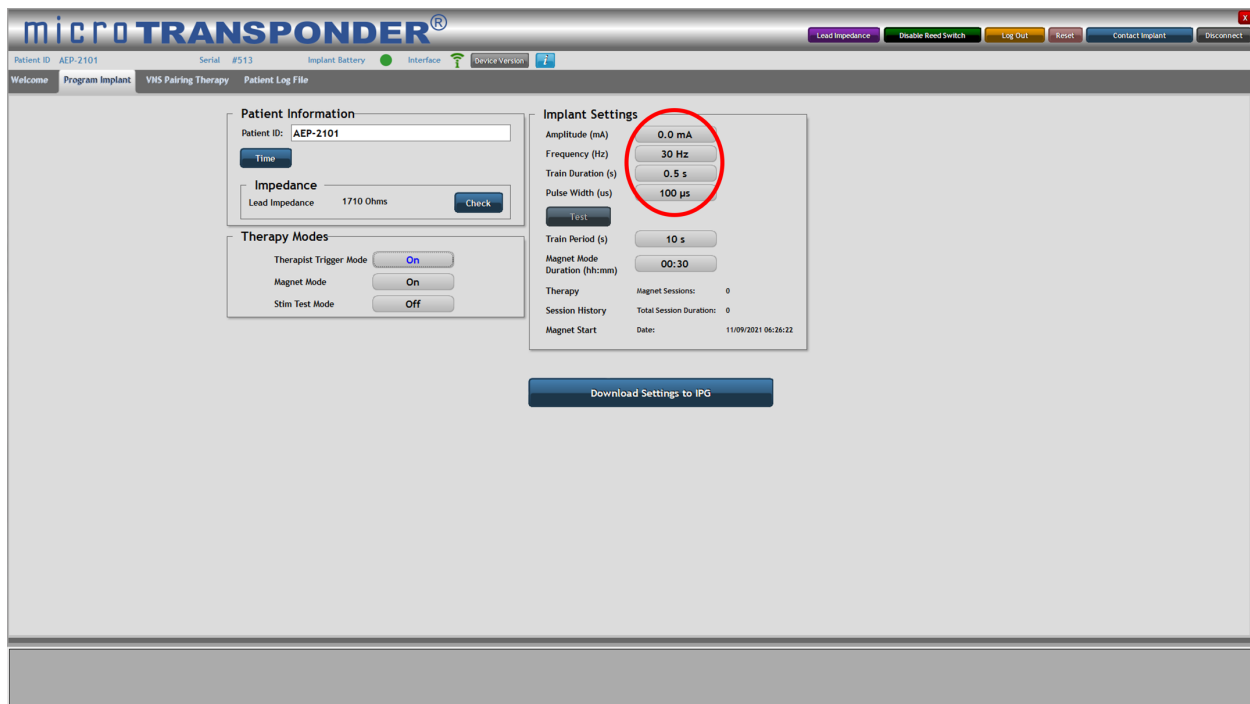

Figure 4.19: Implant Settings
2. Optionally, you may change the stimulation parameters displayed in the **Implant Settings** menu (see Figure 4.19). See **Section 4.3: Implant Settings**.